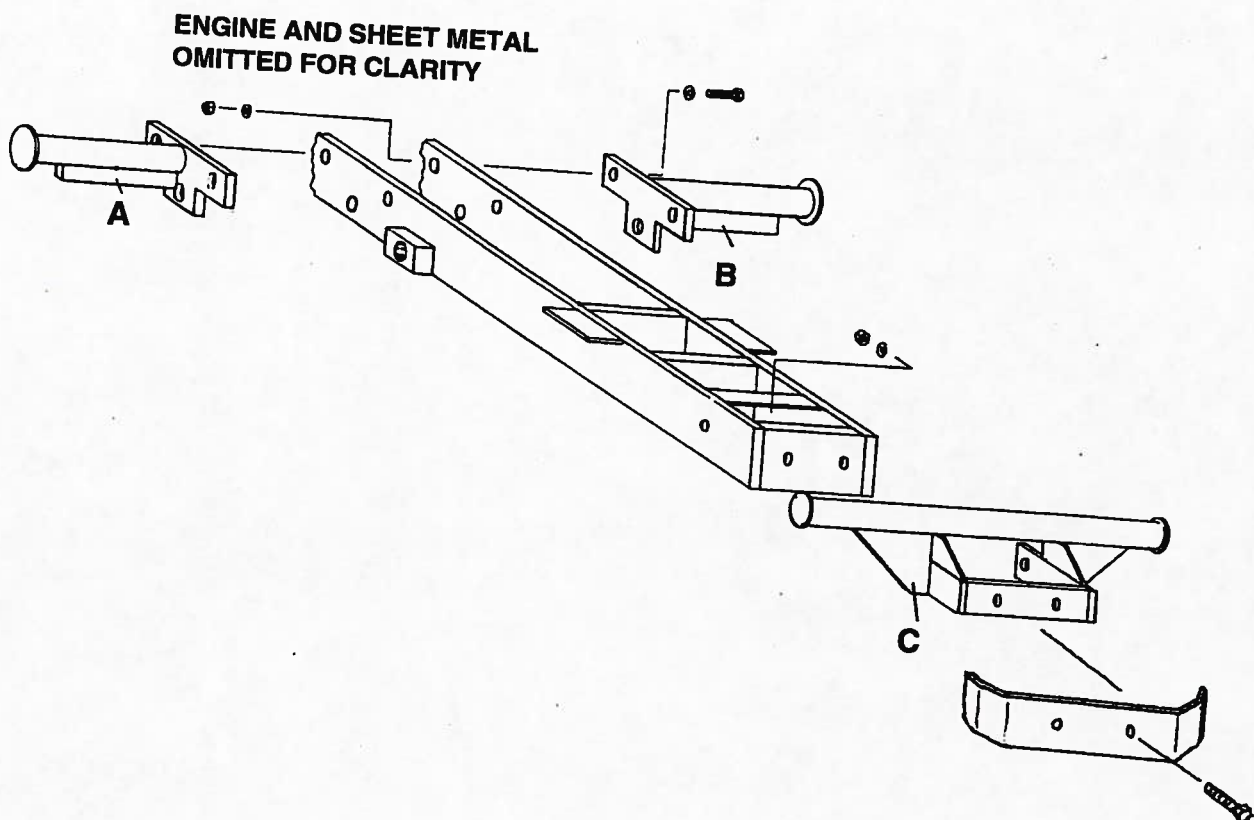

Figure 3
1. Attach left, B, and right, A, rear loader mounting brackets, A, Figure 3. On the 74 Series tractors, the rear mounting bracket is composed of one left, B, and one right, A, part. Simply use three 1/2" bolts with nuts and lock washers to attach each piece to the mounting bracket.
2. Attach front mount, C, Figure 3.